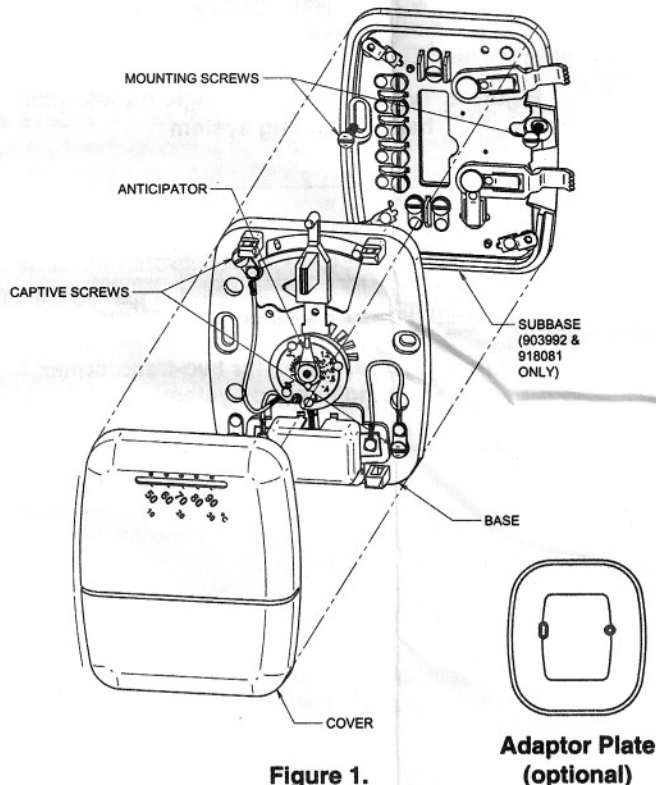

Figure 1.
- Mount base and adaptor plate:** Mount base and adaptor plate (optional) to wall using screws provided (see Fig. 1).
- Mount switching subbase/adaptor plate:** Use the screws provided to mount the subbase and adaptor plate (optional) to wall (see Fig. 1).
- Mount Thermostat Base:** Gently push excess wire back into the wall opening and plug hole with a fire-resistant material, such as fiberglass insulation to prevent drafts from affecting thermostat operation. Mount the thermostat base to the subbase using the three captive screws on the thermostat base. (See Fig. 1) Tighten the screws securely. Remove paper tag from plastic contact cover. Proceed to Step #5.